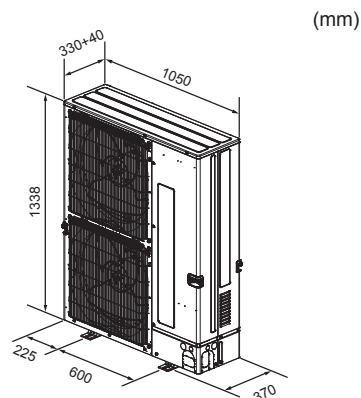

Fig. 2-3
2.3. Outline dimensions (Outdoor unit) (Fig. 2-3)